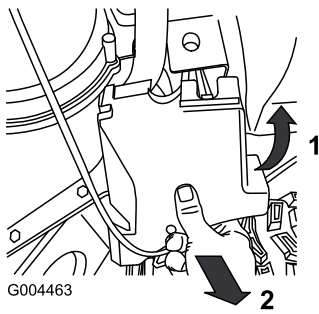

Figure 44
2. Remove the fasteners on the left belt cover, then remove the cover in the sequence shown in Figure 44.